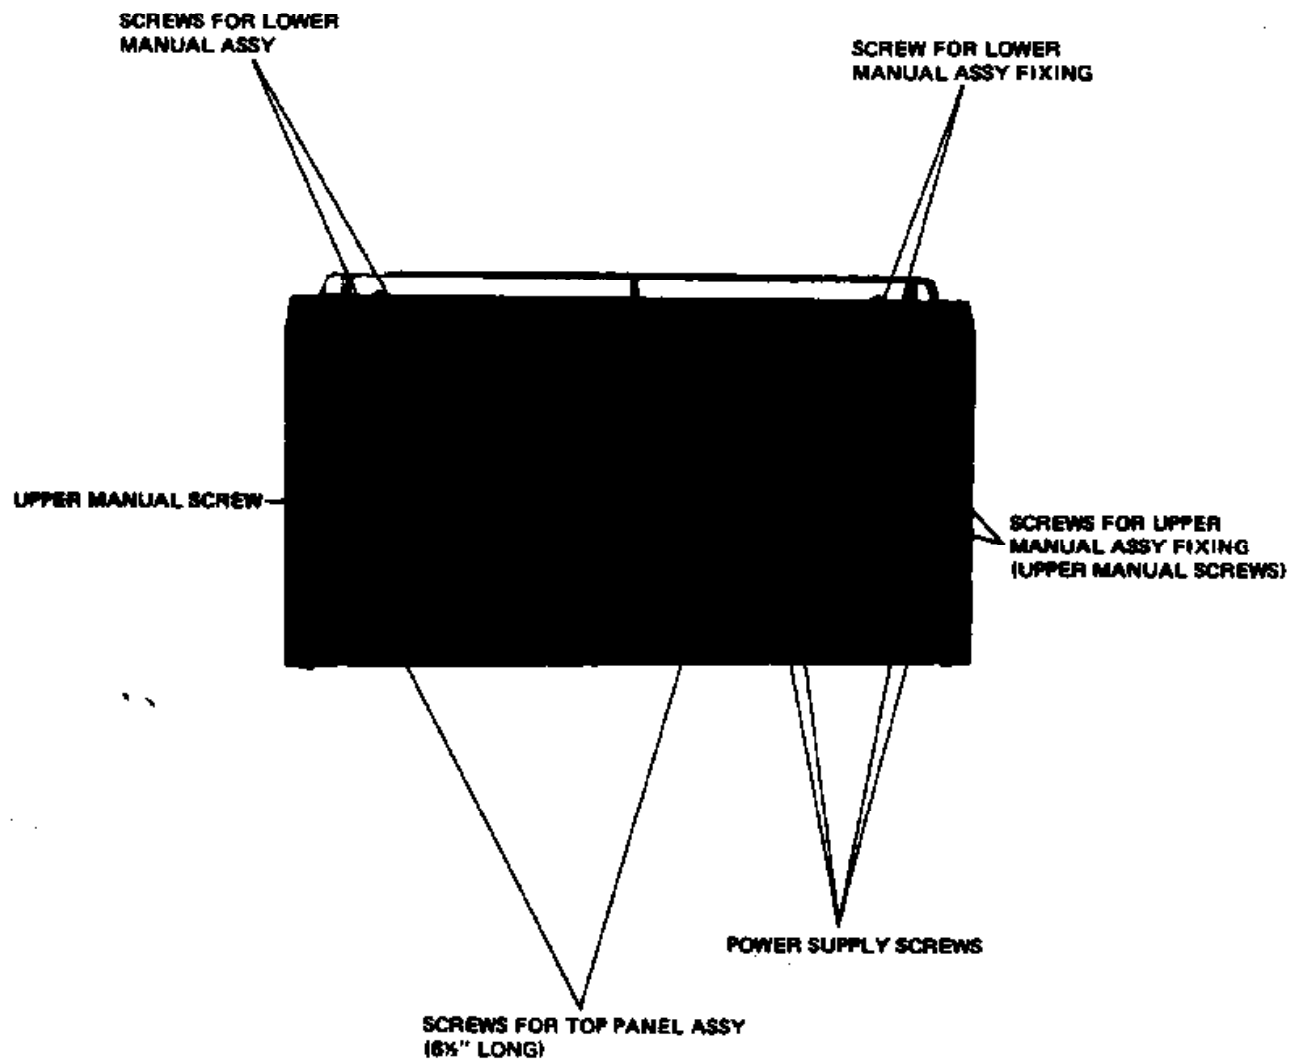

FIGURE 2-1
- a) Two (2) bronze screws (6½" long) located under Upper Section must be removed FIRST. (Note - See Figure 2-1 for location).
- a) See figure 2-1 for location - Remove six (6) 1" long bronze screws from under side of Upper Section.
- b) See Figure 2-1 for location. Remove four (4) 1" long bronze screws from under side and toward front of Upper Section.
- Remove six (6) screws fastening cover above power supply assembly — Remove cover.
- From under side, right rear of Upper Section remove four (4) screws. See Figure 2-1 for location.